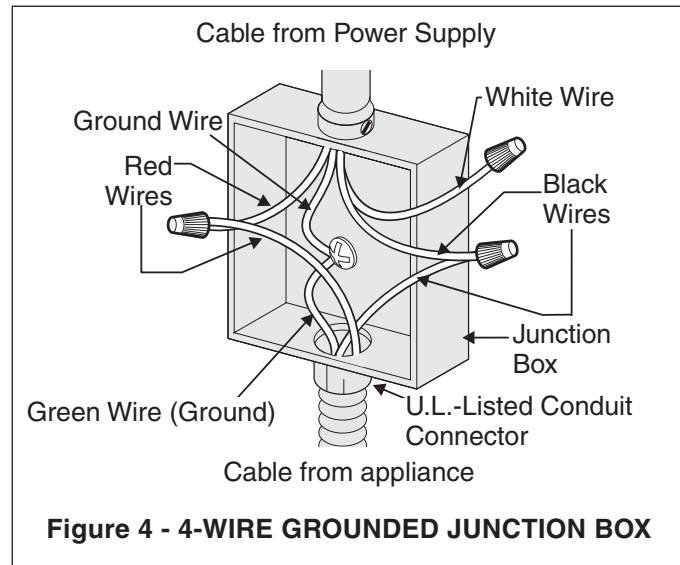

Figure 4 - 4-WIRE GROUNDED JUNCTION BOX
When grounding to the neutral (white) wire is prohibited, you must use a 4-wire power supply cable. See Figure 4. Failure to heed this warning may result in electrocution or other serious personal injury.
If cooktop is used in a new branch circuit installation (1996 NEC), mobile home, recreational vehicle, or where local codes DO NOT permit grounding to the neutral (white) wire (see figure 4):
2. In the circuit breaker, fuse box or junction box, connect appliance and power supply cable wires as shown in figure 4.